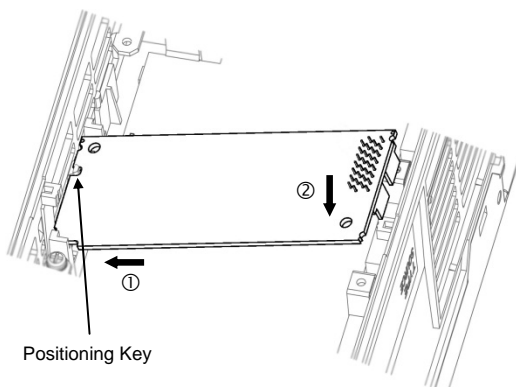

Figure 6: Mounting the Interface Card
2. Rest the left-hand side of the interface card on the control PCB's A-port mounting support. Align the positioning notch on the interface card with the A-port positioning key, and then slide the interface card to the left to engage the key into the notch. Refer to step ① in Figure 6.
3. Rotate the right-hand side of the interface card downward to engage connector CN1 (on the back of the interface card) into the A-port connector (CN4) on the inverter's control PCB. Ensure that the connectors are fully engaged. Refer to step ② in Figure 6.